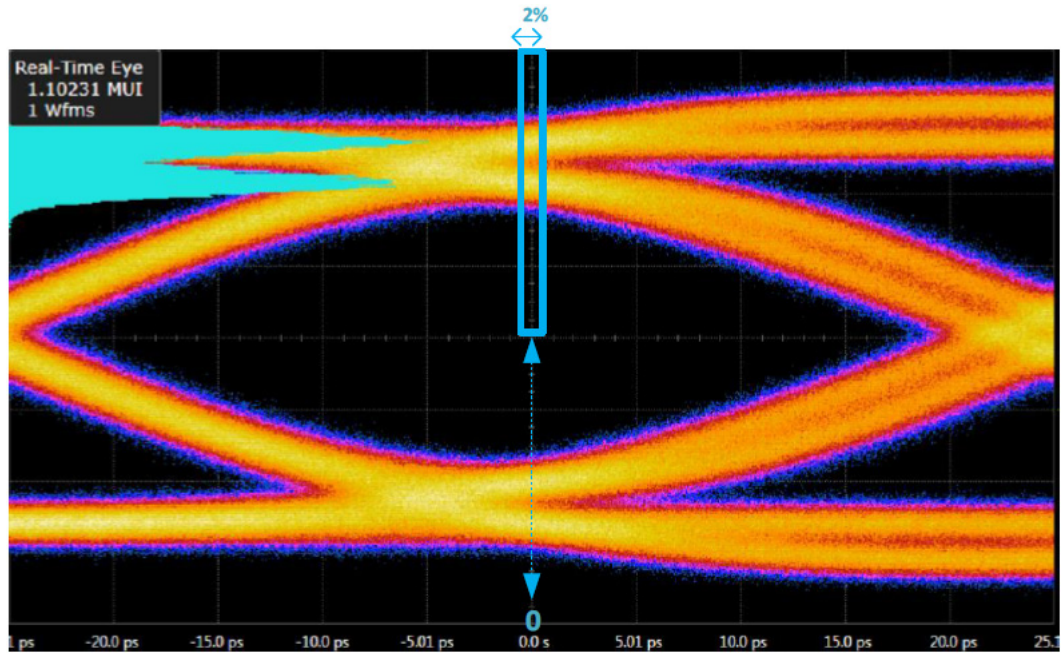
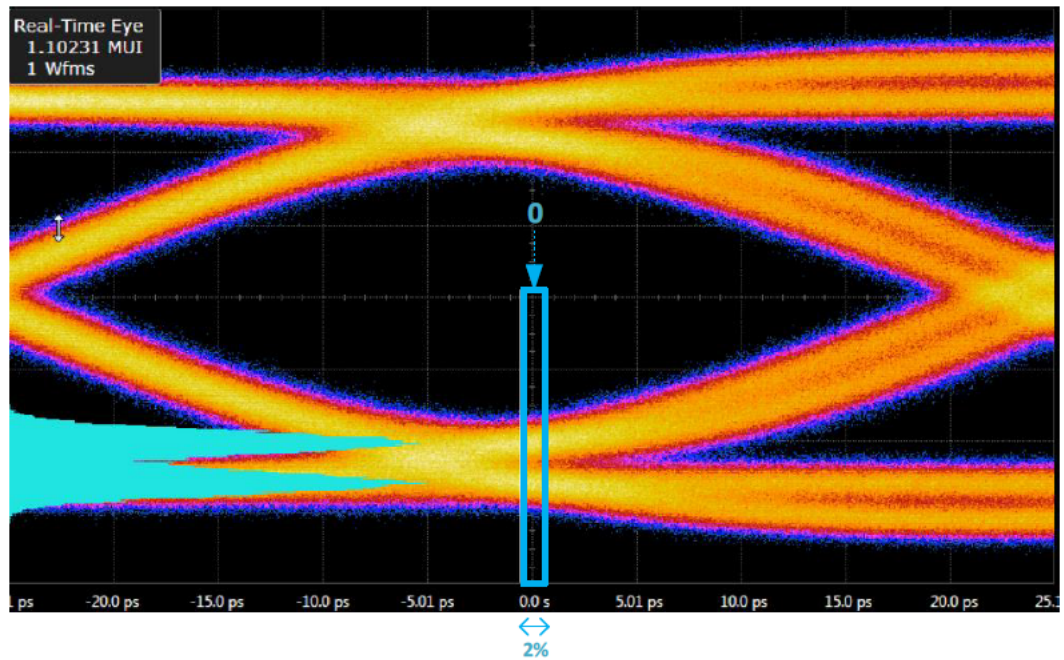

Figure 130 Thunderbolt RX TP3EQ Eye Height upper location measurement
Figure 131 Thunderbolt RX TP3EQ Eye Height lower location measurement
- f Apply a Histogram to the lower and upper sections of the eye, with  $\pm 1\%$  deviation in time axis in order to calculate the eye height. Eye height is the delta between the minimum value from the upper histogram result (see Figure 130) and the maximum value from the lower histogram result (see Figure 131).